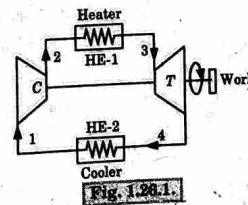

Fig. 1.26.1.
2. The basic components of a Brayton cycle are shown in Fig. 1.26.1.